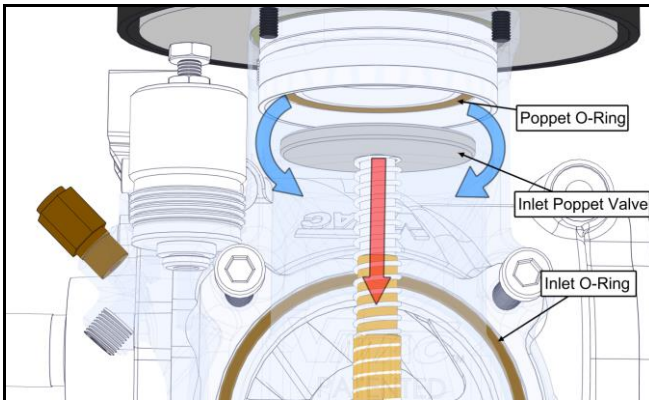

Figure 60 – Poppet valve open
- If the poppet valve is open the compressor will build air pressure (Figure 60).